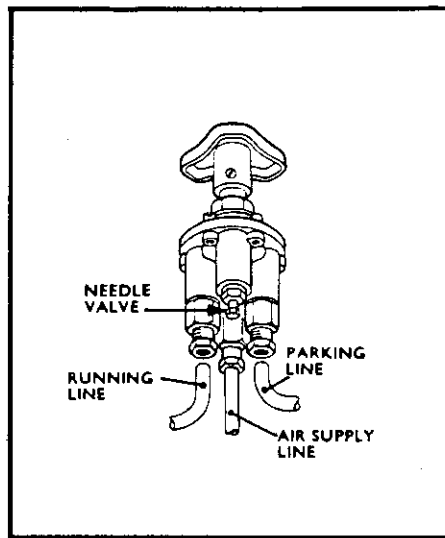

Fig 2 - Air Pipe Connection
- Fig 2 - Air Pipe Connections